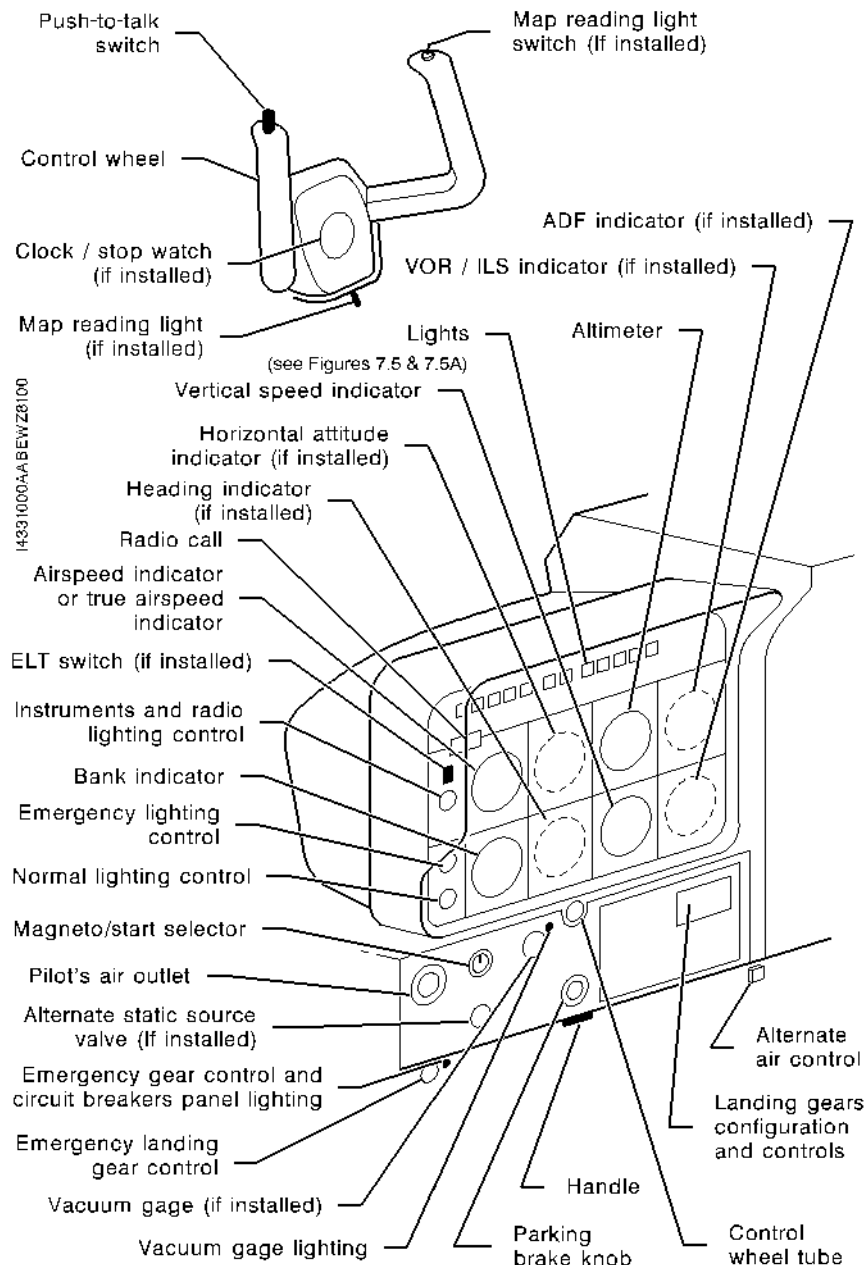

Figure 7.1 - EXAMPLE OF INSTRUMENT PANEL AND L.H. SUBPANEL
L.H. instrument panel (see Figure 7.1) is designed around the basic "T" configuration.
The L.H. panel strip (see Figure 7.1) contains from left to right : L.H. air outlet, magneto/start selector, parking brake knob, landing gears configuration and controls ; under the panel strip, on L.H. side, emergency landing gear control, on R.H. side, the "Alternate Air" control ; alternate static source valve and vacuum gage (if installed) complete the L.H. panel strip.